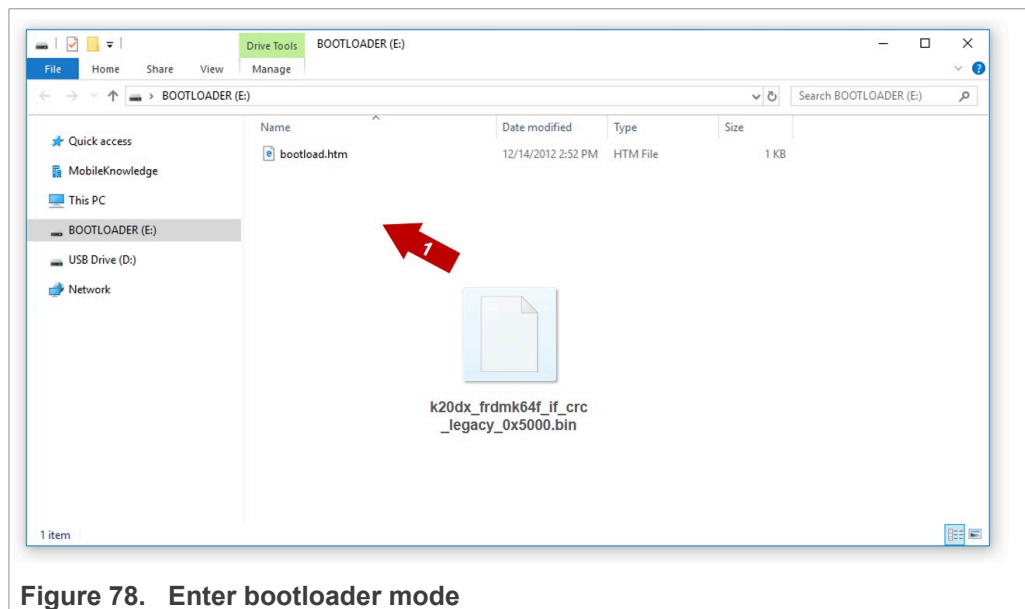

Figure 78. Enter bootloader mode
5. Drag and drop or copy and paste the binary file into the BOOTLOADER drive from your computer file explorer as shown in Figure 78. The FRDM-K64F will automatically un-mount after the drag and drop operation.